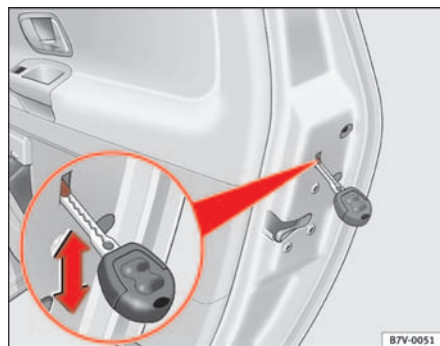

Fig. 59 Release for the child lock in the rear left-hand door
- Move the lever using the vehicle key in the direction of the arrow ⇒ fig. 59.